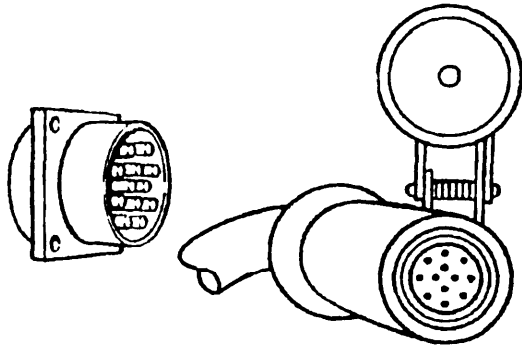

Figure 7-18.—Electrical connector.
- Plug the electrical cord into the trailer (fig. 7-18) and fasten the safety catch.